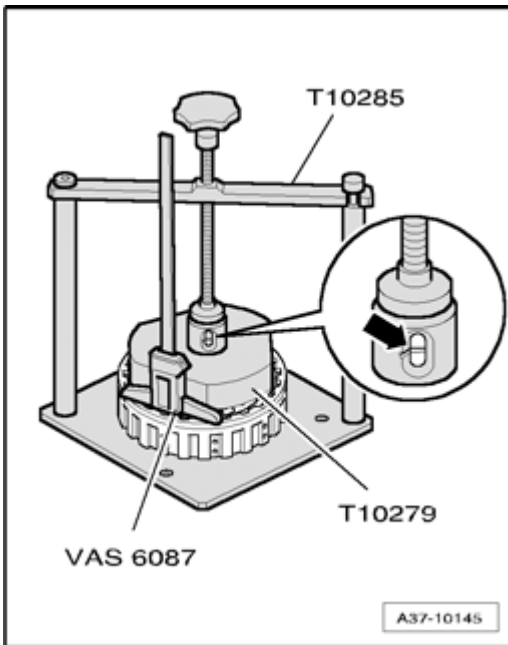

Fig. 138: Adjusting Air Gap Clutch "C"
- Determining thickness **Fig. 138**